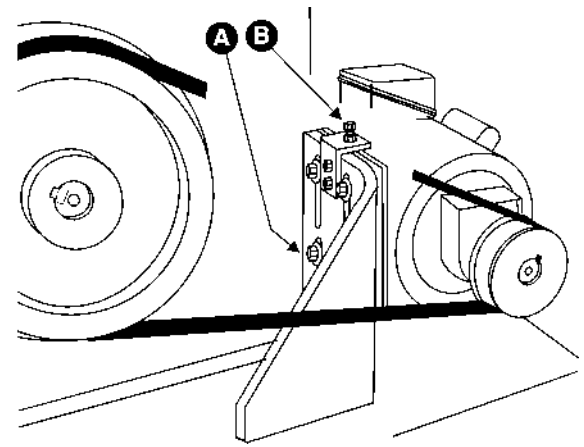

FIGURE 13
3. Loosen the four hex nuts (A), Figure 13, and loosen the nut on the tension adjustment screw (B).
4. Turn the adjustment screw (B) to push down the motor plate and increase tension.
5. When satisfied, tighten nut on adjustment screw (B) and the four hex nuts (A).